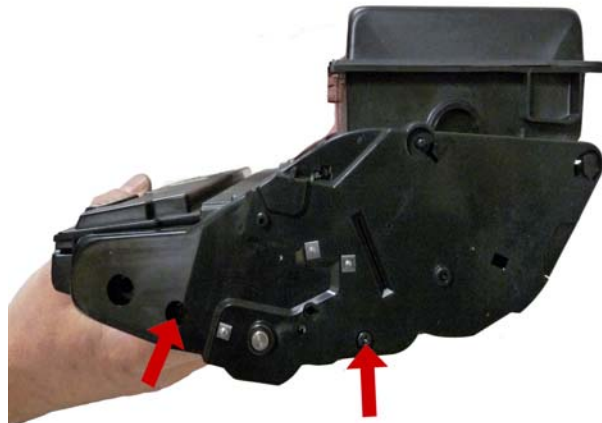

Figure 5
5) Remove the two screws on the left end cap. See **Figure 5**